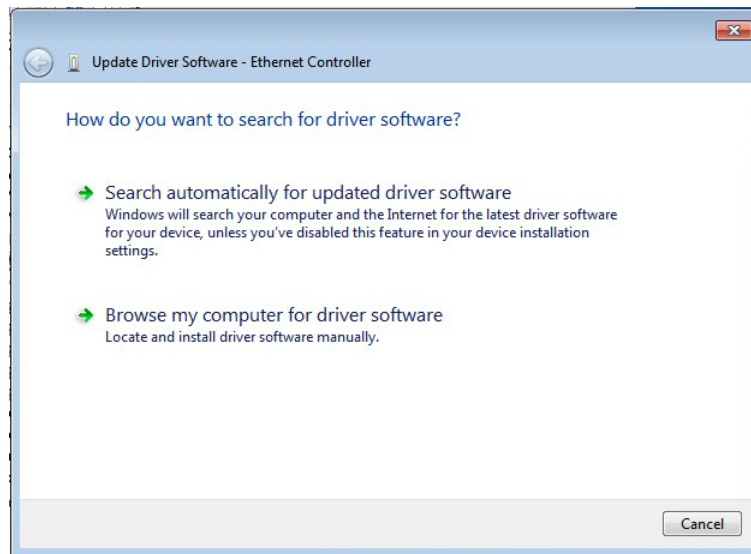

Figure 6-15: Update Driver Software Window
- Step 7:** The Update Driver Software Window appears (**Figure 6-15**).